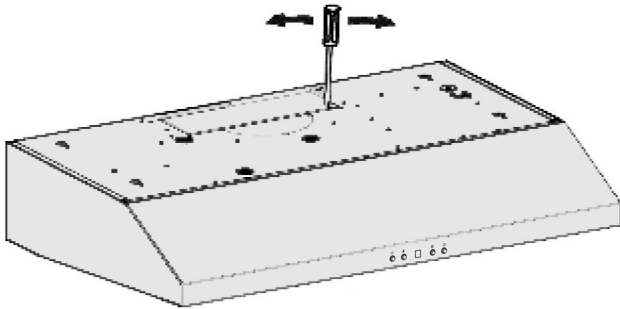

Figure 8
- If you require rectangular top (vertical) venting simply install the rectangular damper provided (see Figure 8, 9 and 10). Use screws 4 × 8 mm to connect damper.